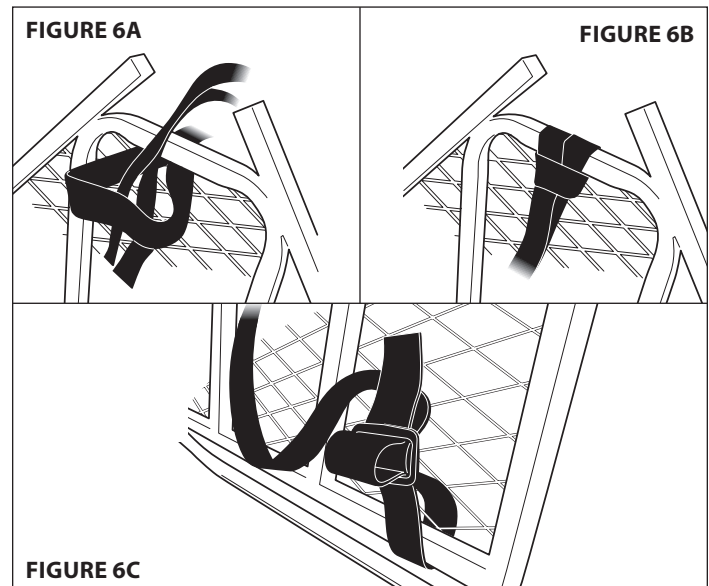

FIGURE 6C
3. If included, attach backpacking straps (48067) at desired location on platform. Fold strap in half. Feed folded strap through platform mesh. Feed the two loose ends of strap through folded loop and pull tight forming a cinch knot. **SEE FIGURES 6A AND 6B.** Feed straps through platform mesh and secure with provided tri-slide buckles. **SEE FIGURES 6C**